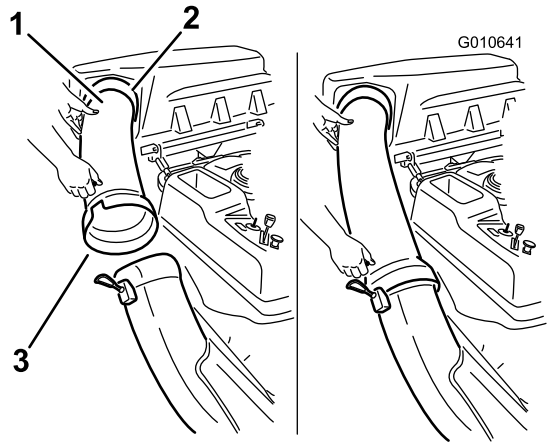

Figure 23
1. Slide the curved end of the discharge tube into the opening in the bagger top (Figure 23).
the chute snaps over the peg on the discharge tube to secure it (Figure 23).